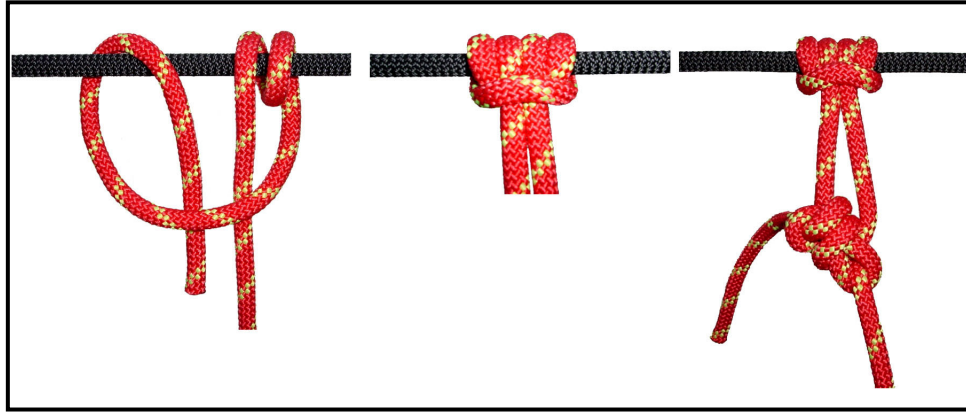

Figure 4-21. End-of-the-rope Prusik knot.
(2) ***End-of-the-Rope Prusik*** (Figure 4-21).